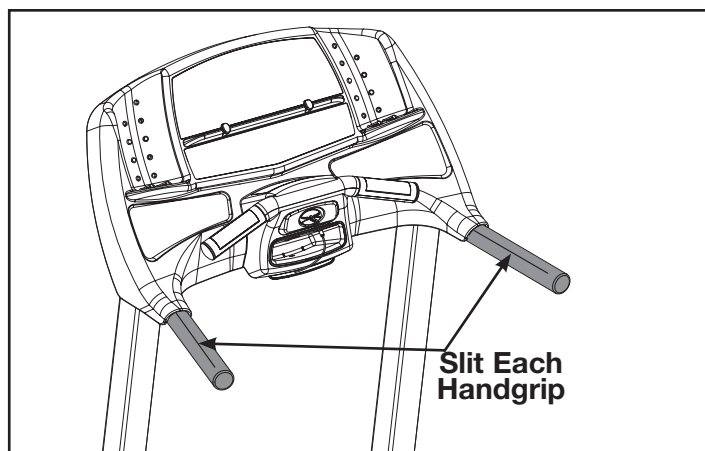

Figure 38
- A. Using a razor blade, carefully slit each handgrip that is on the treadmill. See Figure 38.